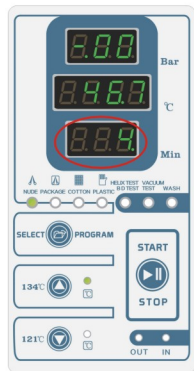

Fig.5.4-2
(2) **First times Pre-vacuum stage:** when the temperature over than 40°C, the sterilizer will start to do vacuum and the control system will open the vacuum pump solenoid valve (Ev4). time display window show “4”, the “pressure display window” show “-.00”, the “temperature display window” show “temperature in chamber”. “Time display window show 4,3,2,1” means vacuum working time countdown, if within 4 minutes, the vacuum value of less than Pv (factory default setting Pv=-0.80bar) value, there will be alarm E12 or the vacuum value reaches Pv value in advance, sterilization program into heating stage in advance. (Fig.5.4-2)
(5)**Second times Pre-vacuum stage:**when the pressure down to 0.0bar,the sterilizer will start to do vacuum and the control system will open the vacuum pump solenoid valve(Ev4).time display window show “4” , the “pressure display window” show “-.00” bar,the “temperature display window” show “temperature in chamber” . “Time display window show 4,3,2,1” means vacuum working time countdown,if within 4 minutes, the vacuum value reaches -0.7bar value in advance, sterilization program into heating stage in advance.(Fig.5.4-2)
(8)**third times Pre-vacuum stage:**when the pressure down to 0.00bar,the sterilizer will start to do vacuum and the control system will open the vacuum pump solenoid valve(Ev4).time display window show “4” , the “pressure display window” show “-.00”,the “temperature display window” show “temperature in chamber” . “Time display window show 4,3,2,1” means vacuum working time countdown,if within 4 minutes, the vacuum value reaches -0.70bar value in advance, sterilization program into heating stage in advance.(Fig.5.4-2)